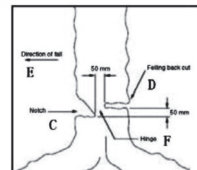

Fig. 2B
WARNING: Never walk in front of a tree that has been notched. Make the felling cut (D) from the other side of the tree and 3-5cm above the edge of the notch (C) (Fig. 2B)